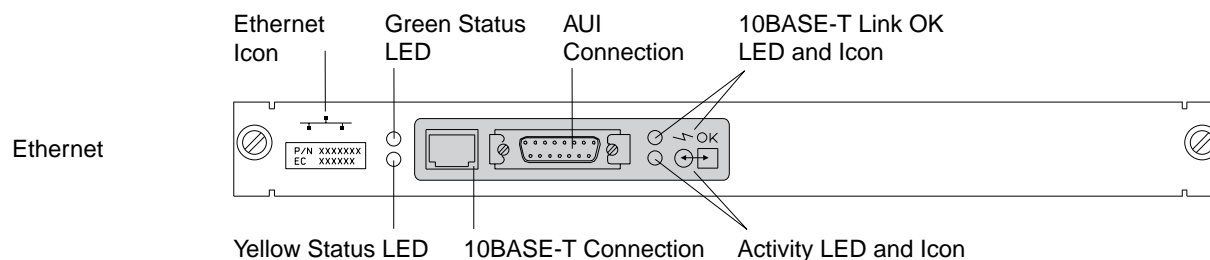

Figure 2-9. Ethernet Attachment Module
- c. ____ Plug wrap plug **C** (PN 70X8670) in the AUI connector of the Ethernet module (refer to Figure 2-9 on page 2-9).